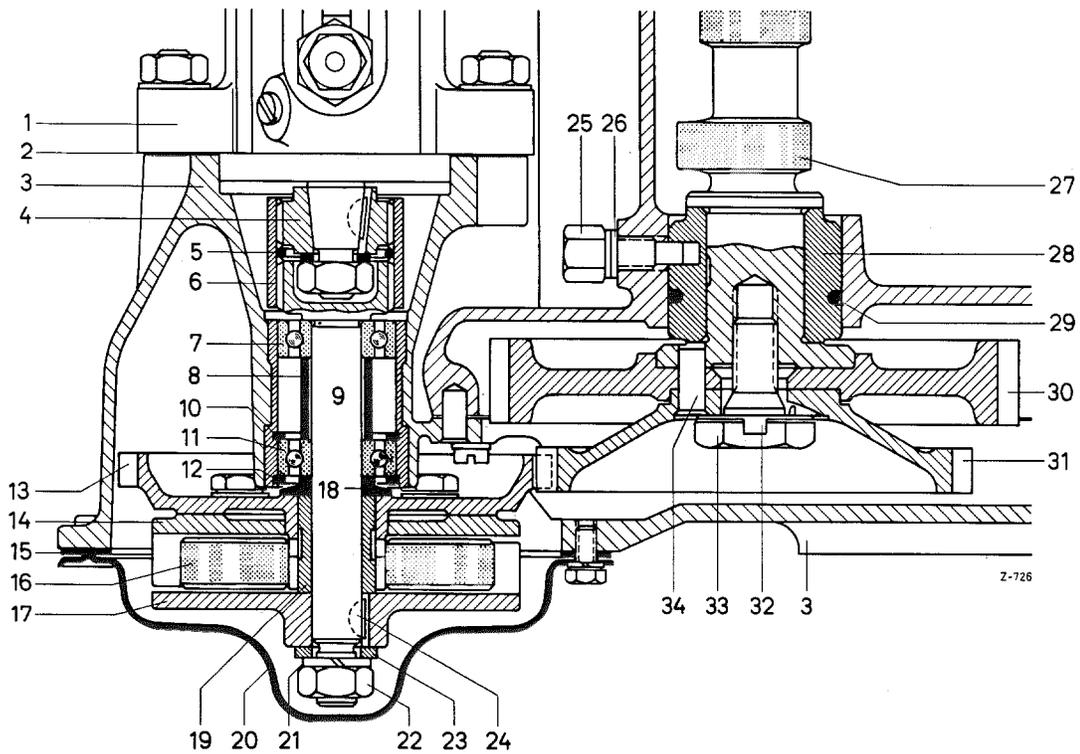

Figure 07-27/4
12. Insert the guard ring (12) in the front annular groove.
13. Press the rear annular grooved-bearing (7) onto the new longer driving shaft (9) Part No. 636 077 05 05.
14. Put the spacer (8) with a length of 24.2 mm on the driving shaft (9) and install the driving shaft in the timing housing cover (see Figure 07-27/4).
15. The thrust washer (18) Part No. 636 075 00 62 must be mounted on the driving shaft in such a way, that the small collar presses against the inner race of the annular grooved-bearing (11). **Make sure that this thrust washer is installed correctly**, because otherwise the pressure produced during tightening of the injection timing device is transmitted to the guard ring (12) instead of the inner race of the bearing (see Figure 07-27/4).